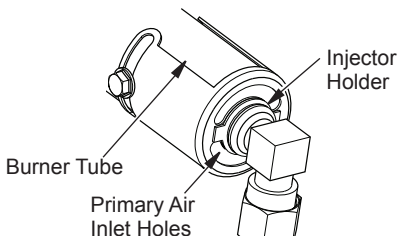

Figure 45 - Injector Holder On Outlet Burner Tube
2. Inspect burner, pilot and primary air inlet holes on injector holder for dust and dirt (see Figure 45).